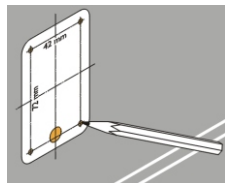

Fig. 2
- 1 - Mark the location of the fixing holes using the drilling template supplied with the receiver (Fig. 2);